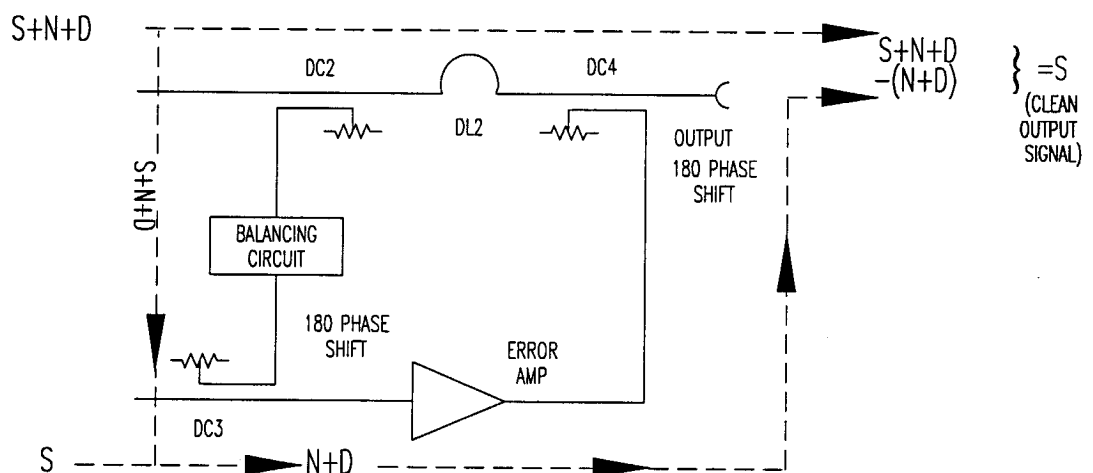

Figure 5: Second Loop Cancellation
As Figure 5 shows, the isolated (N+D) is received from the first loop at DC3 and input to the second loop, where it is processed by the Error Processing circuit. At coupler DC4, Error Processing circuit output (N+D) is combined with Main Amplifier circuit output (S+N+D). The two signals are combined antiphase to substantially reduce (N+D), producing a signal (S) with improved noise and distortion characteristics at the final output.